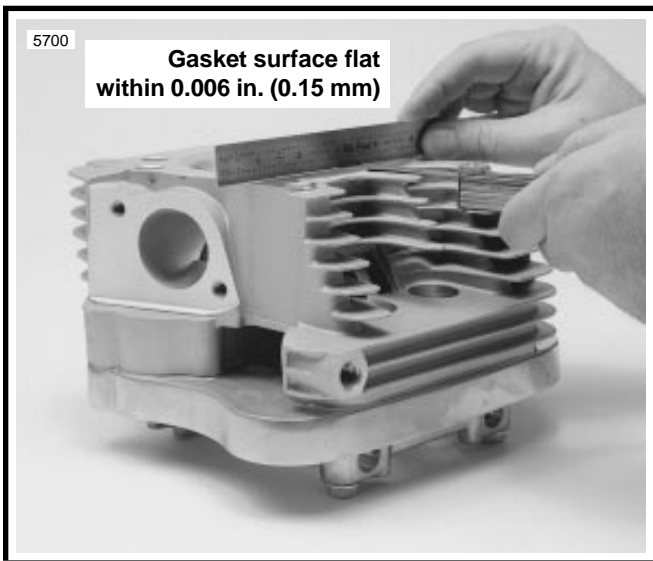

Figure 3-17. Checking Gasket Surface
19. See Figure 3-17. Check head gasket surface on head for flatness. Machine or replace any head which exceeds SERVICE WEAR LIMIT of 0.006 in. (0.15 mm).